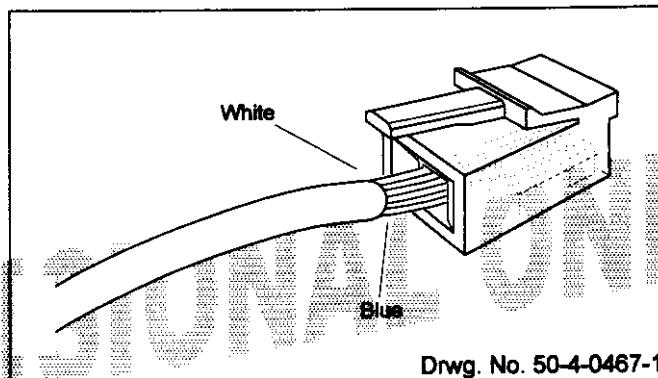

Figure 3.4: Connector for 2-wire Socket
The 2-wire sockets are designed to take an RJ-11 connector. Exicom supplies two cables with every terminal, each with an RJ-11 connector on one end and unterminated at the other. The operator can use these to make the 2-wire connections to the terminal, or provide their own RJ-11 connection. An RJ-11 connector is shown in Figure 3.4 and the connector pin-outs are identified in Table 3.1.
**Note:** The wiring colours in Figure 3.4 are for the connector on the Exicom supplied cable.